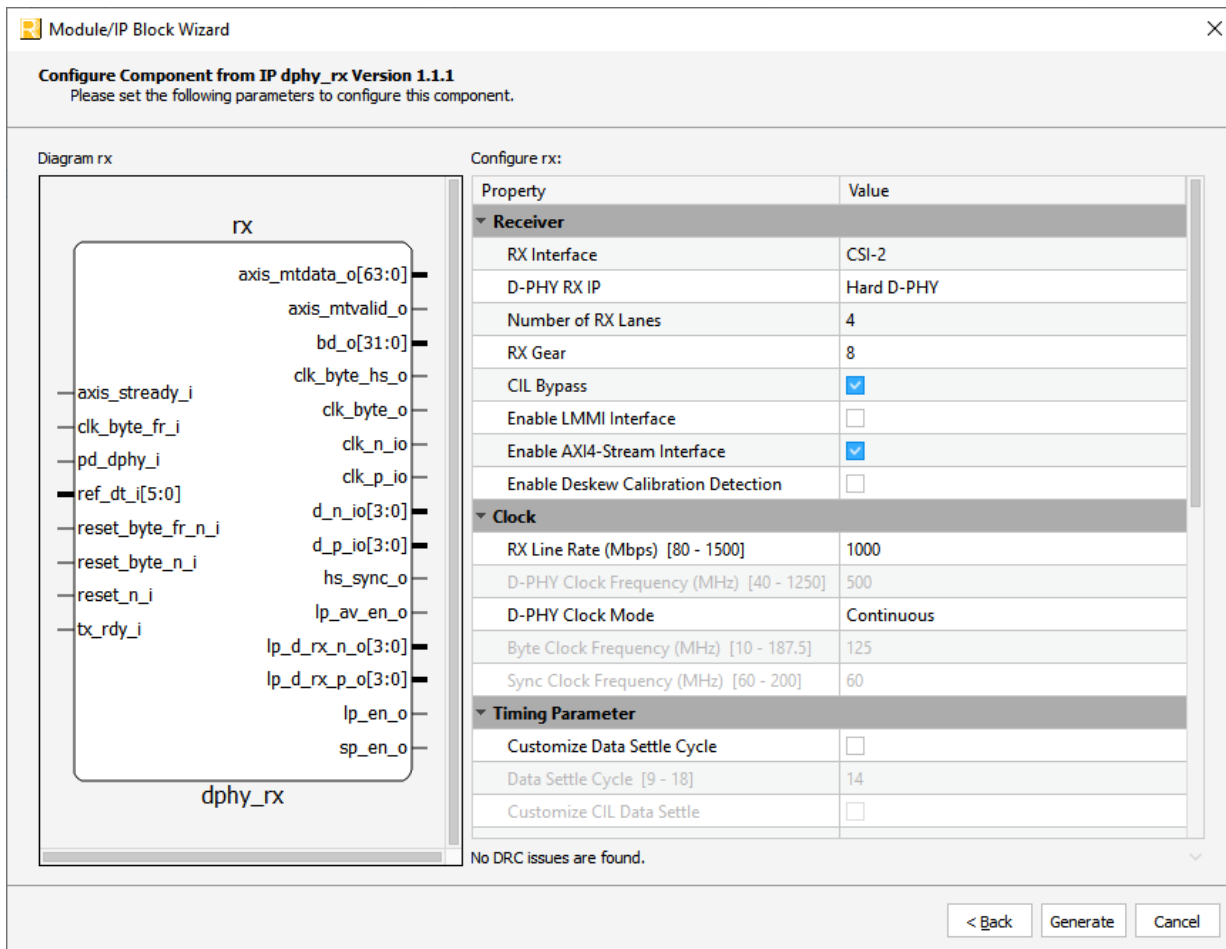
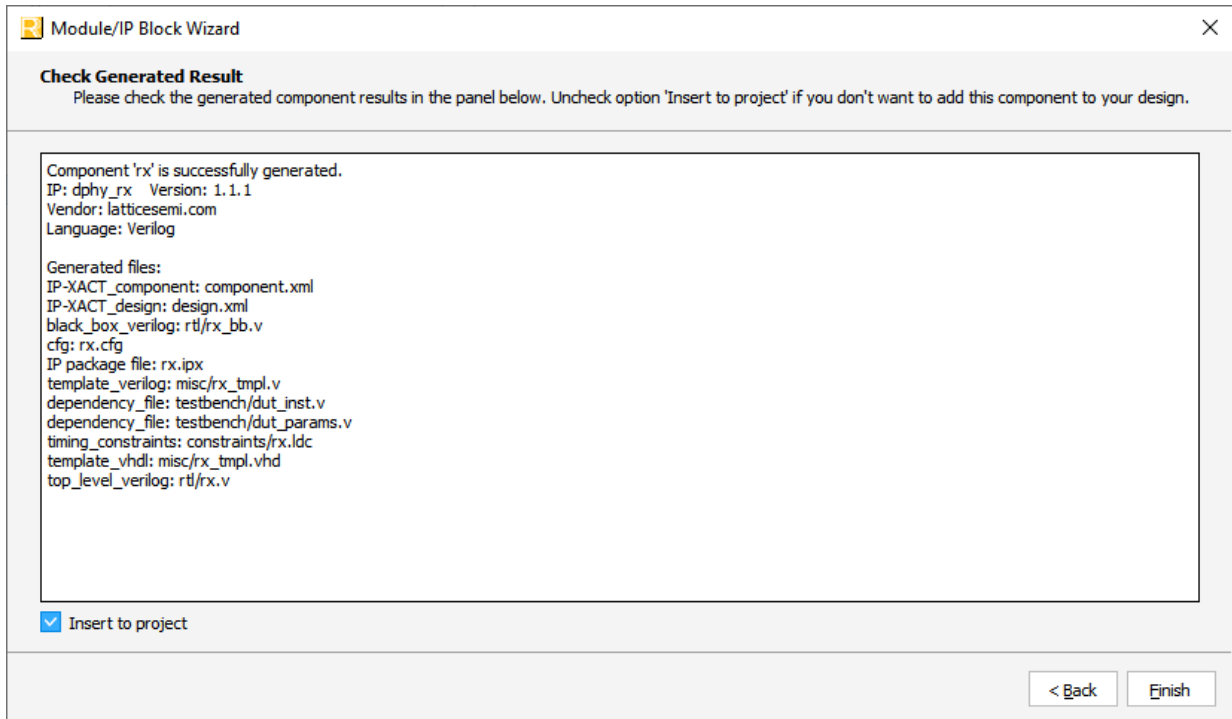

Figure 6.1. Configure Block of D-PHY Rx
Figure 6.2. Check Generating Result
2. In the dialog box of the **Module/IP Block Wizard** window, configure D-PHY Rx module according to custom specifications, using drop-down menus and check boxes. As a sample configuration, see Figure 6.1. For configuration options, see Table 4.1.
- Click **Generate**. The **Check Generating Result** dialog box opens, showing design block messages and results as shown in Figure 6.2.
Core Generation, Simulation, and Validation	<ul style="list-style-type: none"> Updated reference to the Lattice Radiant Software User Guide Updated Figure 6.1. Configure Block of D-PHY Rx. Updated Figure 6.2. Check Generating Result.